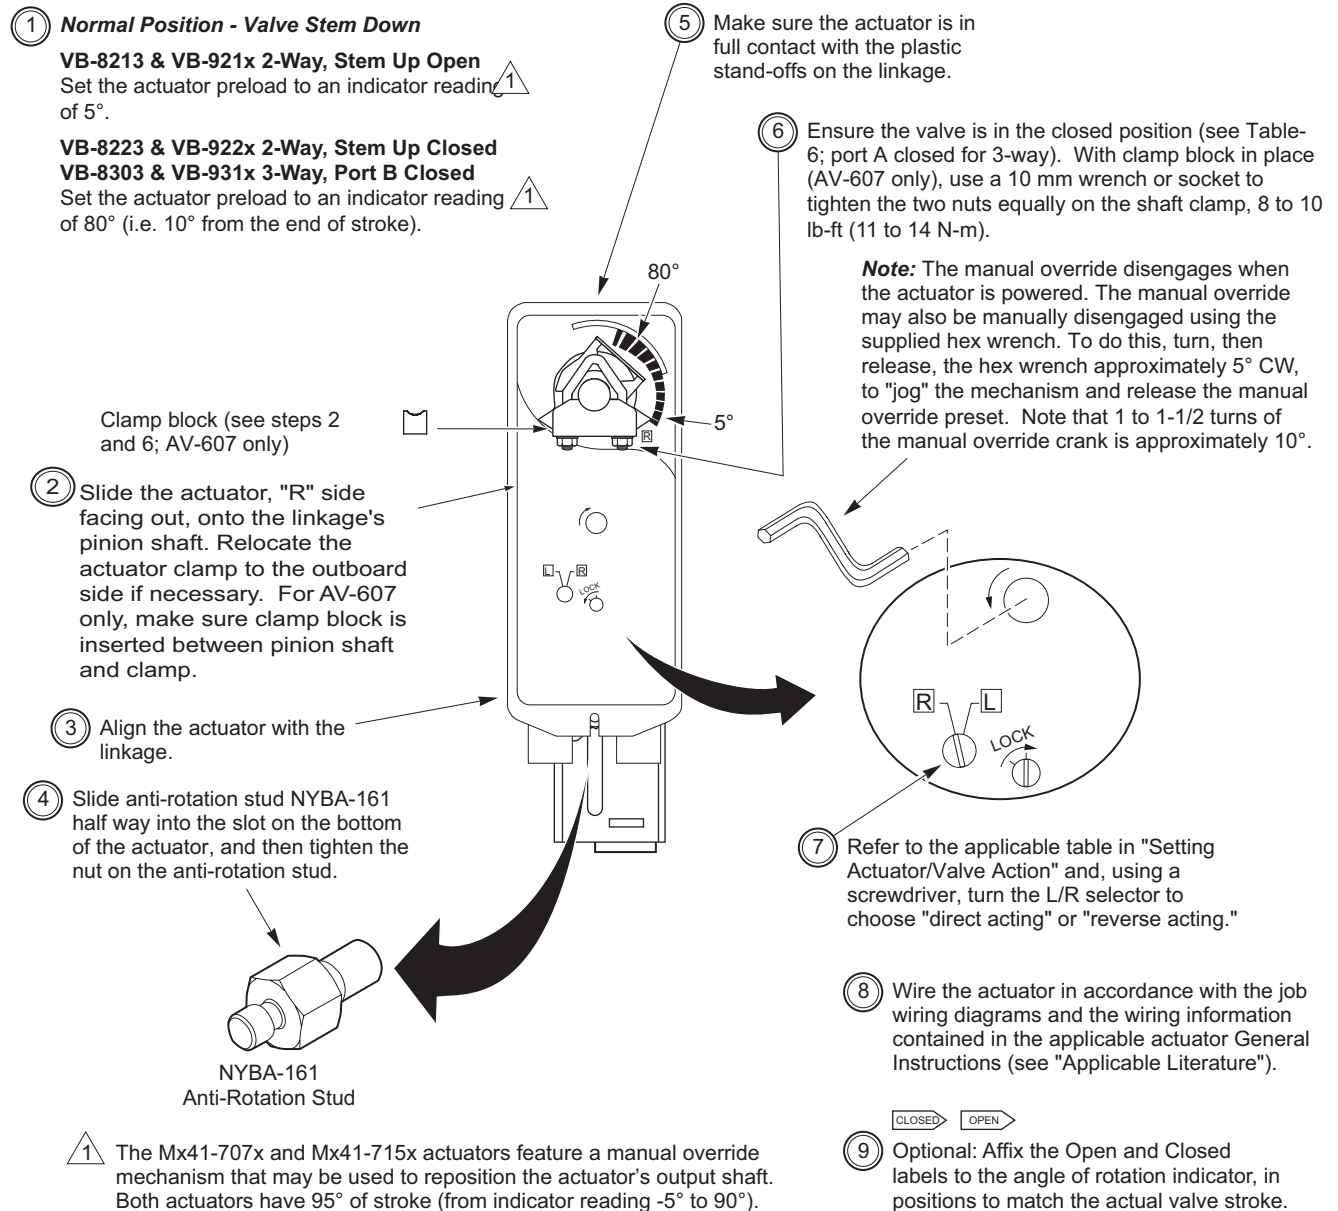

Figure-4 Mounting Mx41-707x or Mx41-715x and Setting Up Actuator/Linkage/Valve Assembly.
- a. Install the actuator onto the linkage and valve, and set up the assembly, according to Figure-4.